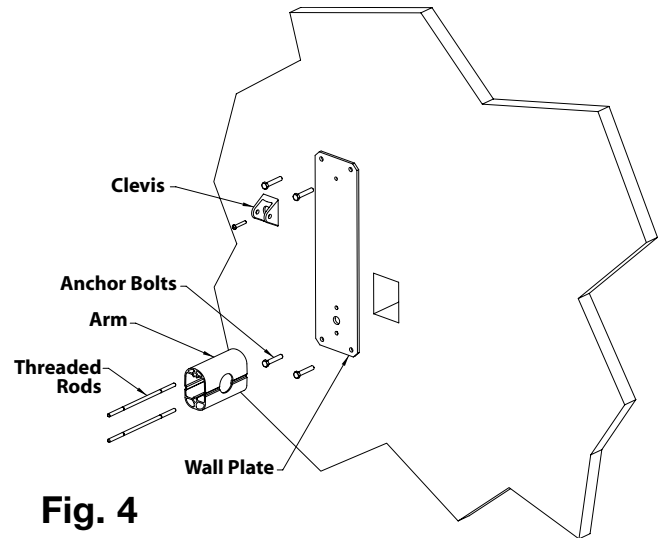

Fig. 4
Using the WALL PLATE as a template, drill four (4) holes into the wall. Install the appropriate wall anchors (not supplied). Feed the power supply wires through the WALL PLATE and attach the WALL PLATE to the WALL using four (4) ANCHOR BOLTS (not supplied). Install the THREADED RODS into the WALL PLATE. Attach the CLEVIS to the WALL PLATE. Slide the ARM over the THREADED RODS. See Figure 4.